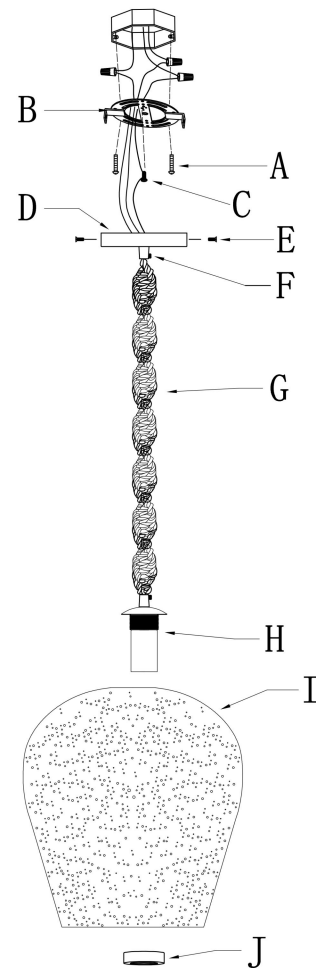

Fig. 2
CONNECTING THE WIRES (Fig. 2)
6. Connect electrical wires as shown in Fig.2, making sure that all wire connectors are secured. If your junction box has a ground wire (green or bare copper), connect the fixture's ground wire to it. Otherwise, connect the ground wire directly to the mounting plate (B) using the green screw (C) provided.